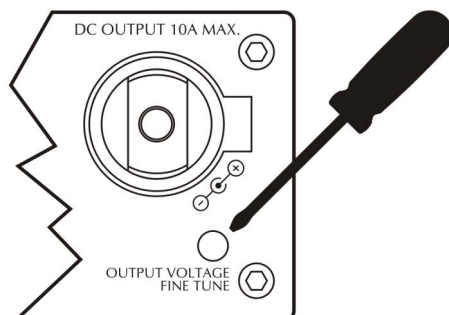

Fig.4
2. Turn the power supply over with the bottom up and connect a digital multi-meter(DMM) with at least 2 decimal read out to the main output terminal (4).
3. Locate the fine tune access hole (3) on the bottom as shown in Fig.4.
4. Insert a slim flat head screw driver to get to the trimmer as shown in Fig.4.